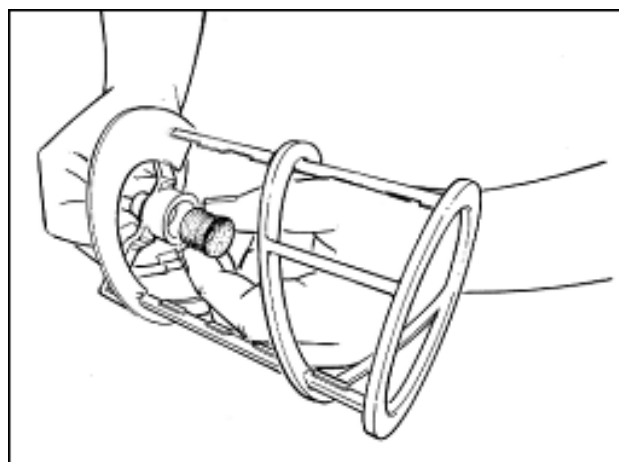

Fig. 43
- Insert the suction gasket into the auger by carefully inserting it into its seat (Fig. 43).